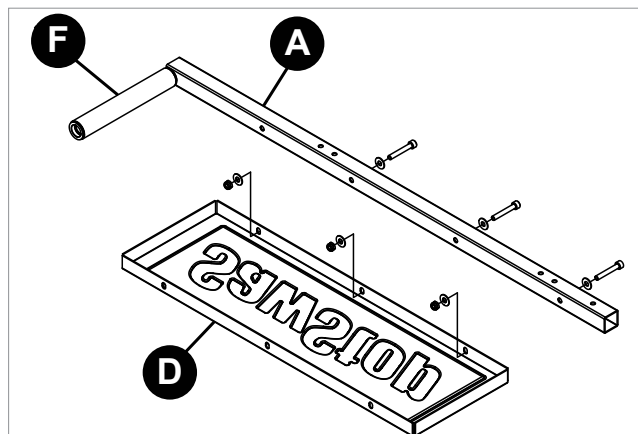

Fig. 4
Place the insert table (D) between the table tubes (A), with the text on the bottom, so the three mounting holes in the side of the insert table line up with the three insert table mounting holes in the table tube attached to the large table roller (see Fig. 4).